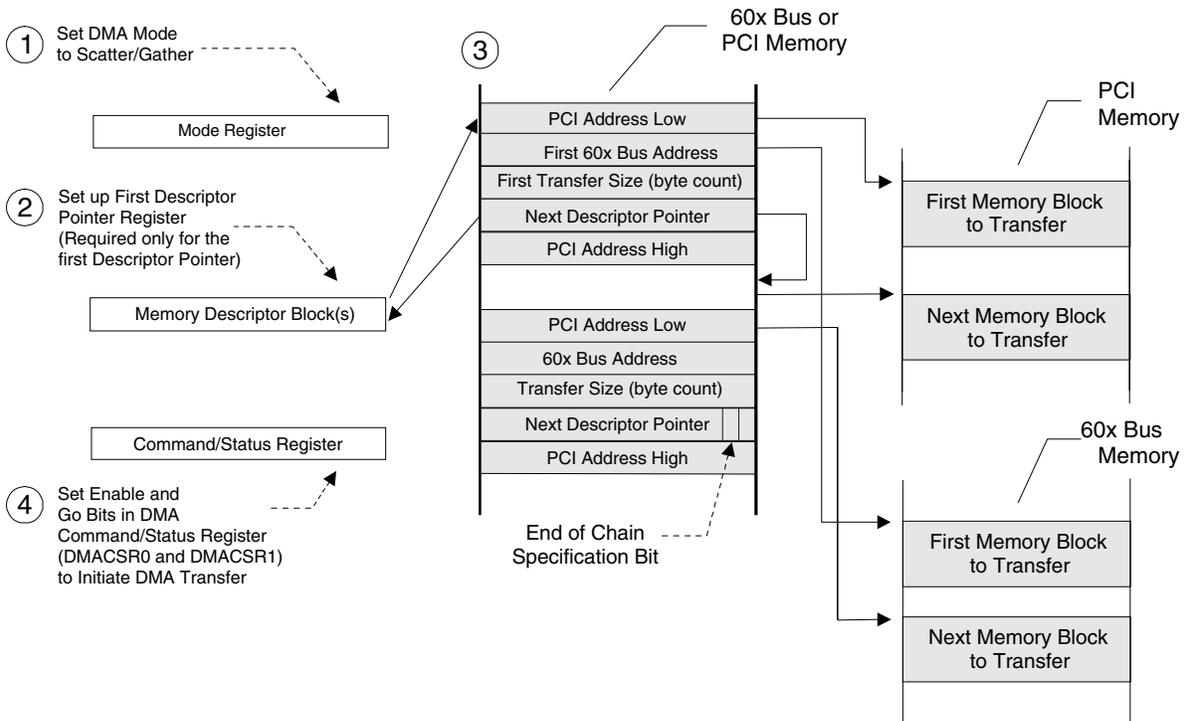

Figure 3-14. Scatter/Gather DMA Mode Descriptor Initialization [DAC PCI Address (DMAMODEx[18]) Descriptor Dependent] (PCI Address High Added)
- DMADACx contains a 0x00000000 value. DMAMODEx[18] is set to 1. The PCI 9610 performs a SAC five-Lword descriptor block load from PCI memory and DMA transfer with DAC on the PCI Bus. (Refer to Figure 3-14.)
- DMADACx contains a non-zero value. DMAMODEx[18] is set to 1. The PCI 9610 performs a SAC five-Lword descriptor block load from PCI memory and DMA transfer with DAC on the PCI Bus. The fifth descriptor overwrites the value of the DMADACx registers. (Refer to Figure 3-14.)